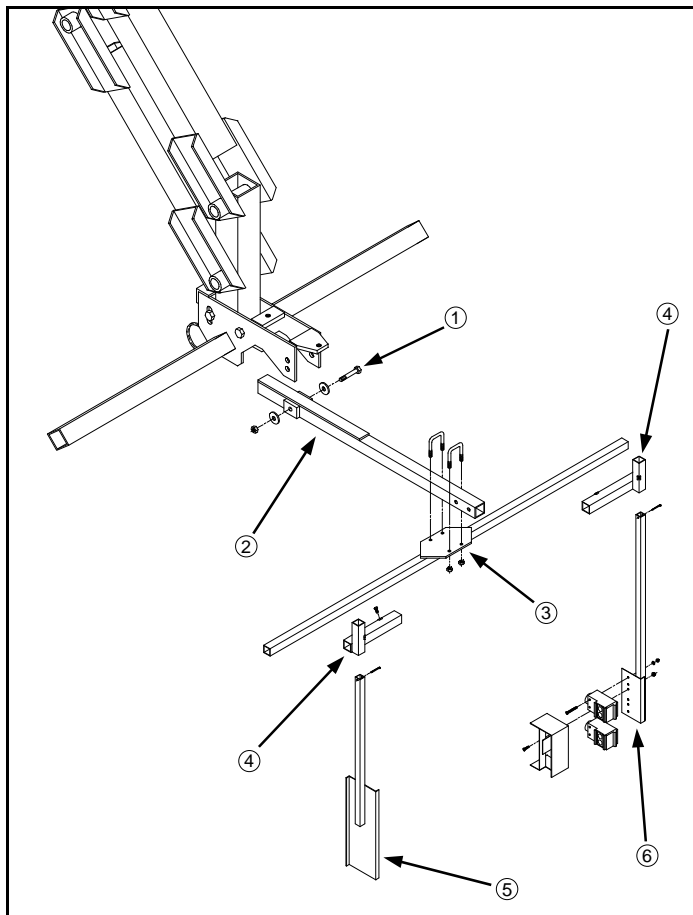

FIG 4.23
1. Install Tasselrol®/LS sensor arm weldment with the two nylon washers in the bottom hole in the tool bar (fig. 4.23, item 2).
2. Install the Tasselrol®/LS cross tube weldment (fig. 4.23, item 3) to the sensor arm.
3. Install the left and right slide mount weldments (fig. 4.23, item 4) to the cross tube weldment.
4. Install the Tasselrol®/LS reflector mount (fig. 4.23, item 5) and sensor mount (fig. 4.23, item 6) to the slide mount weldments.